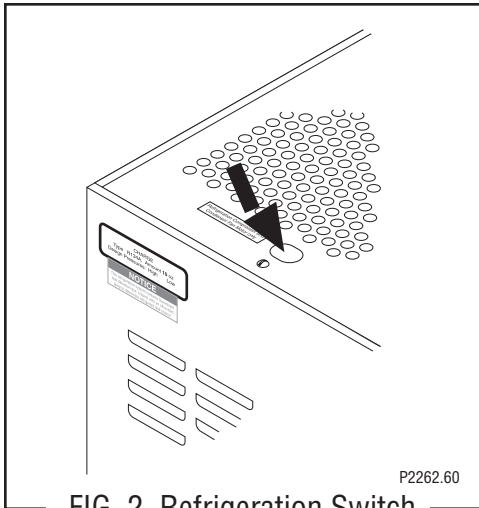
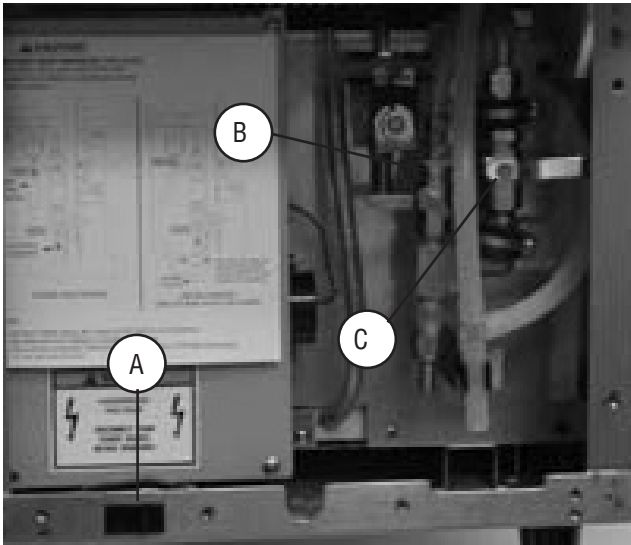

FIG 2 Refrigeration Switch
FIG 3 Sanitize Switch & Water Valves
2. Ensure that the Main Water Valve (Early models) and the Water Bath Valve Fig 3, are turned off (handles positioned at 3 o'clock and 9 o'clock, respectively,) and that the Refrigeration Switch Fig 2, is in the OFF (rear) position.